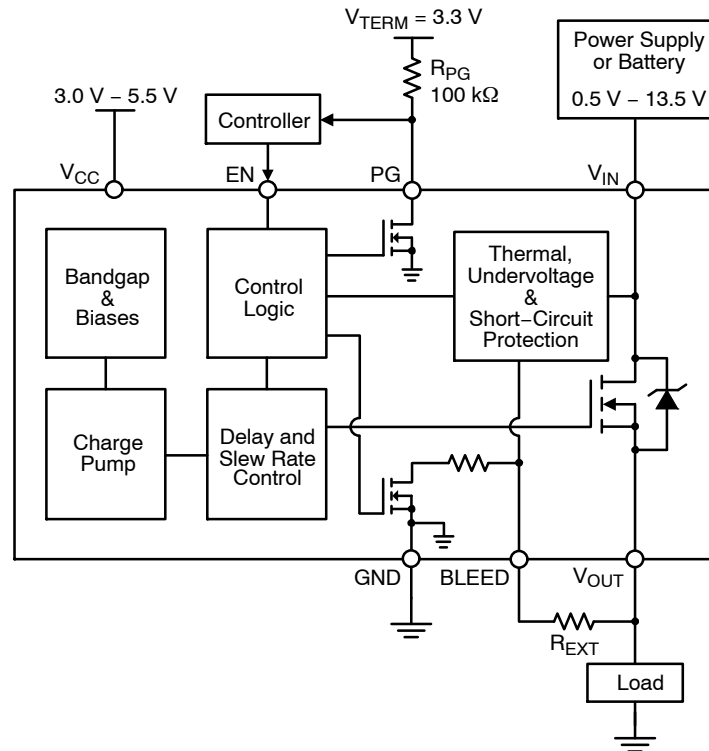
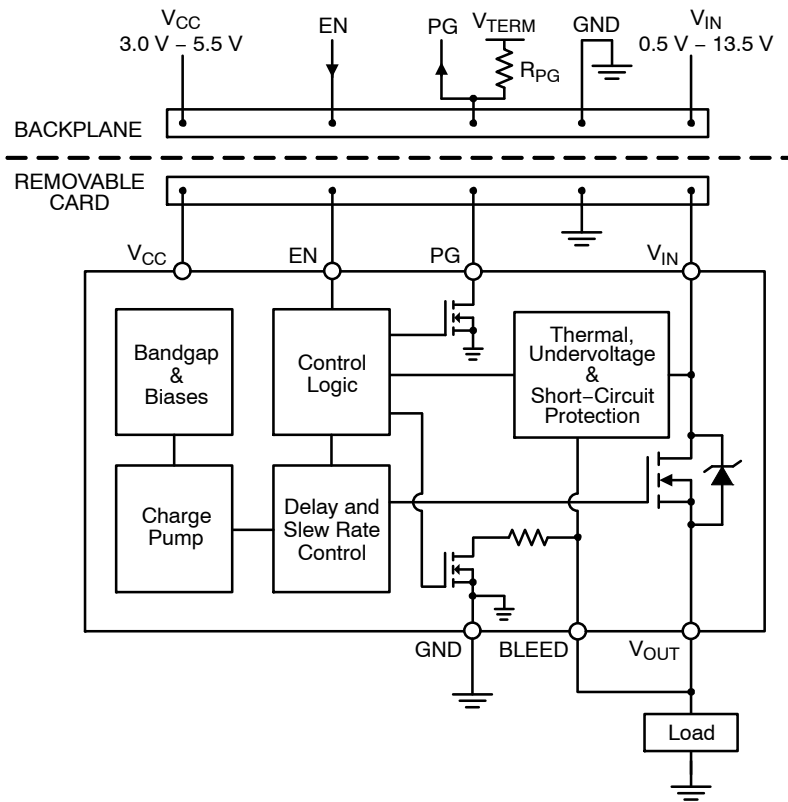

Figure 3. NCP45520 Typical Application Diagram – Load Switch
Figure 4. NCP4520 Typical Application Diagram - Hot Swap
It is required that the BLEED pin be connected to V_{OUT} either directly (as shown in Figures 4 and 7) or through an external resistor, R_{EXT} (as shown in Figures 3 and 6). R_{EXT} should not exceed 1 kΩ and can be used to increase the total bleed resistance.
The NCP45520 devices have a power good output (PG) that can be used to indicate when the gate of the MOSFET is fully charged. The PG pin is an active-high, open-drain output that requires an external pull up resistor, R_{PG}, greater than or equal to 1 kΩ to an external voltage source, V_{TERM}, that is compatible with input levels of all devices connected to this pin (as shown in Figures 3 and 4).
Once active, the circuitry monitors the difference in the voltage on the V_{IN} pin and the voltage on the BLEED pin. In order for the V_{OUT} voltage to be monitored through the BLEED pin, it is required that the BLEED pin be connected to V_{OUT} either directly (as shown in Figures 4 and 7) or through a resistor, R_{EXT} (as shown in Figures 3 and 6), which should not exceed 1 kΩ. With the BLEED pin connected to V_{OUT}, the short-circuit protection is able to monitor the voltage drop across the MOSFET.